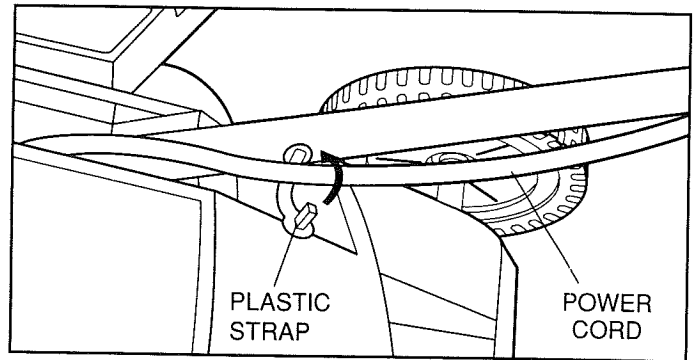

FIGURE 3
- Use the plastic strap from the bag to hold the power cord against the lower handle half. Just above the mower shroud there is a small hole on the inside surface of the lower handle half. Wrap the plastic strap around the power cord and insert the post into the hole in the handle, as shown in Figure 3. Push firmly and you will feel it snap into place.